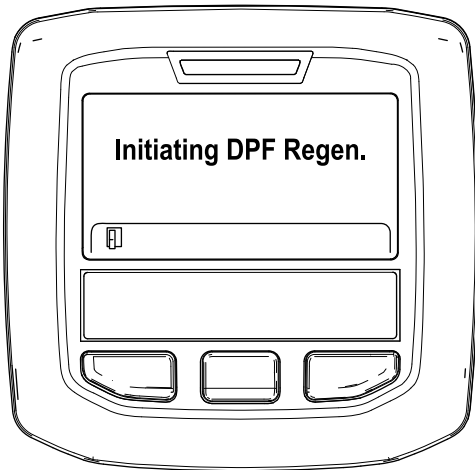

Figure 9
A. The “Initiating DPF Regen.” message displays (Figure 9).